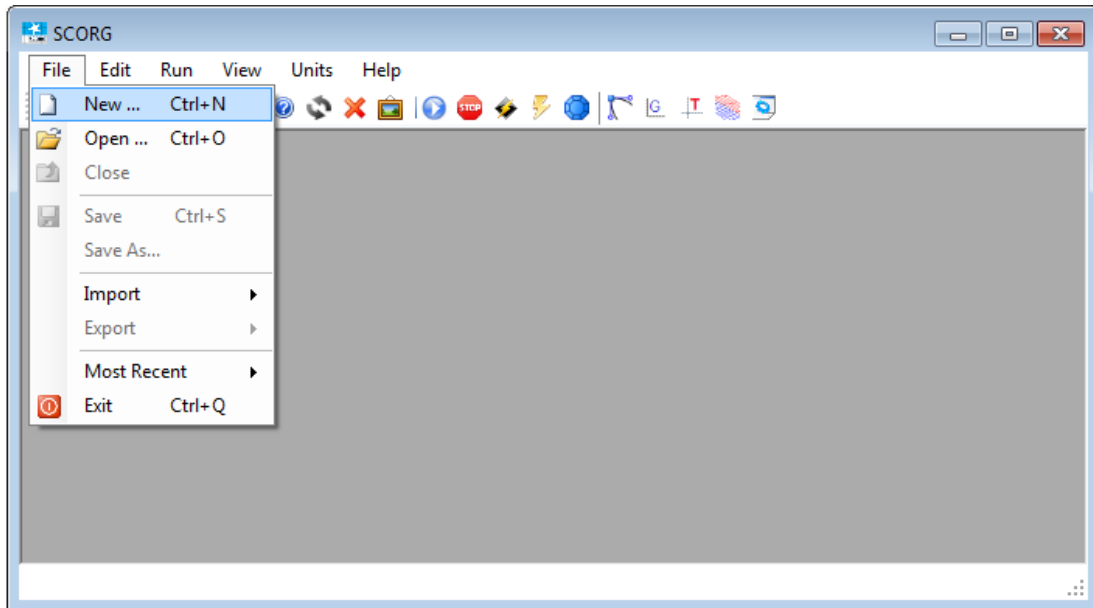

**Figure 1.3 Schematic view of a screw machine chamber configuration**
In the chamber model it is assumed that all thermodynamic values, such as the pressure, temperature, density etc. are uniform within the respective control volume. Any of the control volumes can be considered as open thermodynamic systems, which exchange fluid mass and energy with the environment, as shown in Figure 1.3. The mass and energy flows, in and out of the control volume affect the quantity of mass and internal energy of the fluid inside the working chamber. The rate of change of the mass and energy within the working chamber are defined by the conservation laws of mass and energy respectively expressed in terms of differential equations. Other phenomena within the control volume and at its boundaries are modelled by a number of algebraic equations which describe leakage, inlet and outlet fluid velocities, oil injection and heat exchange with environment and oil. The model is closed by the equation of state of the working fluid which can be defined as ideal or real gas.
- The next geometry setup is related to setting size of flow domains and passages shown in Figure 1.2 and Figure 1.3.